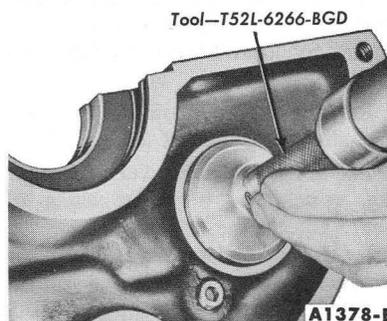

FIG. 84—Camshaft Rear Bore Plug Installation
4. Clean the camshaft rear bearing bore plug recess thoroughly. Install a new plug (Fig. 84).